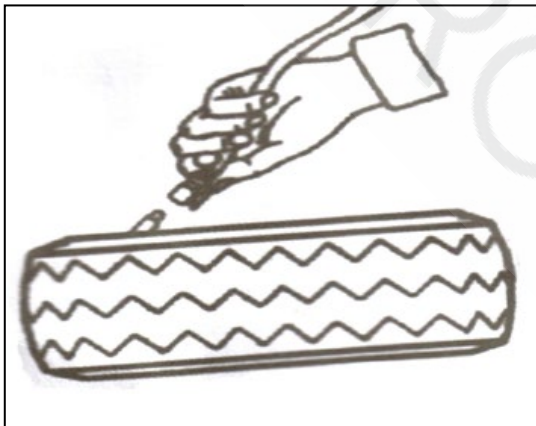

FIG36
- Connect the inflation hose with the tire air core. (FIG36)